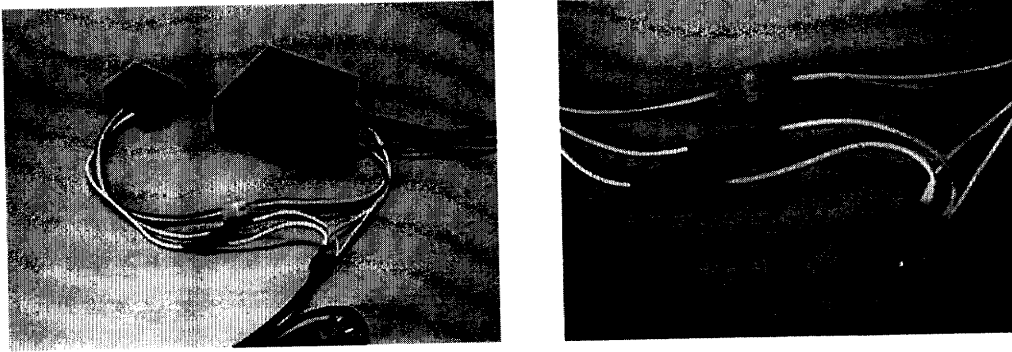

Figure 1
2. Connect the power box and the receiver of Remote Receiver as shown in Figure 1.